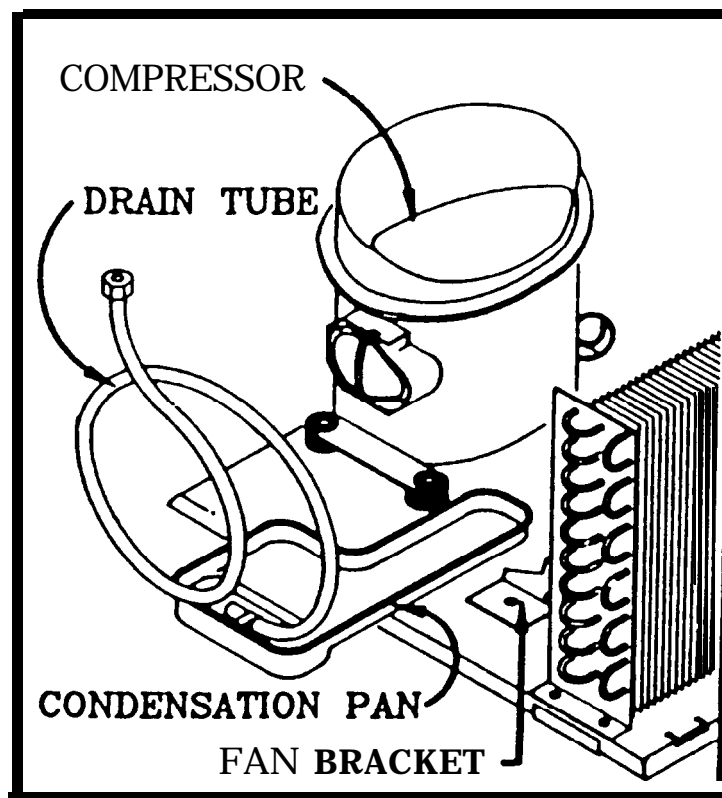

FIGURE 5
- * Check the position of the condensate drip pan to be sure it is seated between the compressor and the condenser fan bracket. This is the best position to dissipate any moisture that may be in the drip pan. Ensure that the hose is in the clip provided in the pan and the hose has a loop in it to prevent any warm air from the base area from getting into the cooling area. This extra warm air will cause moisture to build up on the evaporator and freeze up. See figure 5.